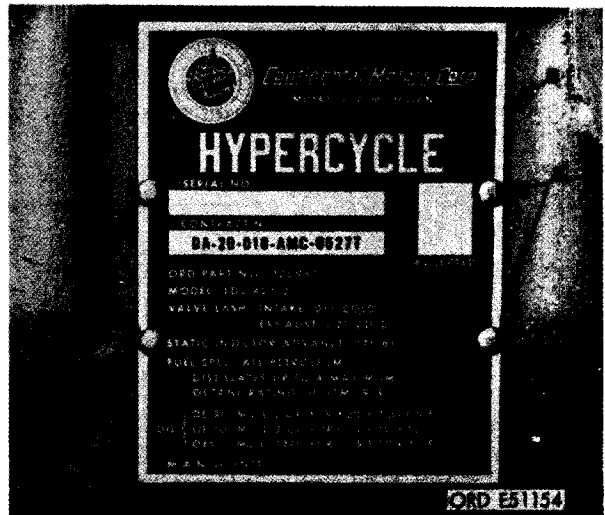
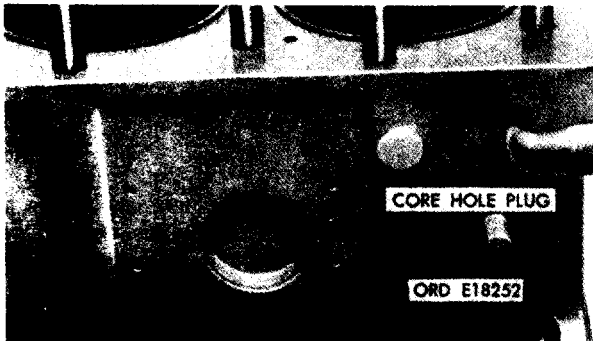

FIGURE 320. REMOVING OR INSTALLING ENGINE NAME PLATE FOR CORE HOLE INSPECTION.
FIGURE 321. LOCATION OF CORE HOLE PLUGS BEHIND ENGINE NAME PLATE.
- (3) Figure 320. (A) Remove four 1/8 x 1/4 pins securing name plate to cylinder and crankcase. (B) Remove nameplate to inspect core hole plug (fig. 321). Inspect plug as described in par. 159b(8).